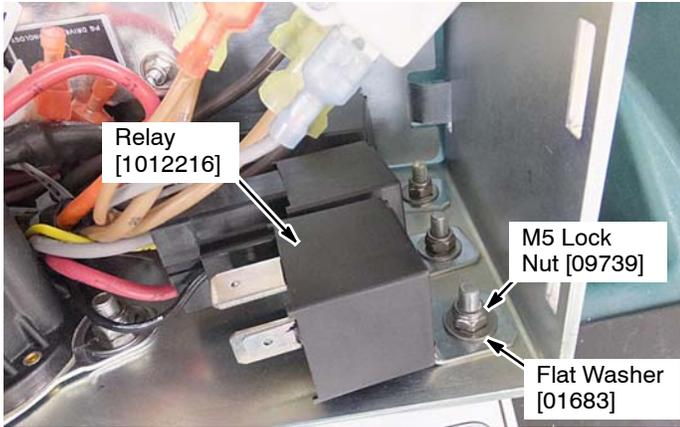

Fig. 6
- Using hardware shown, attach the Relay to the mounting stud located inside the circuit breaker box (Figure 6).